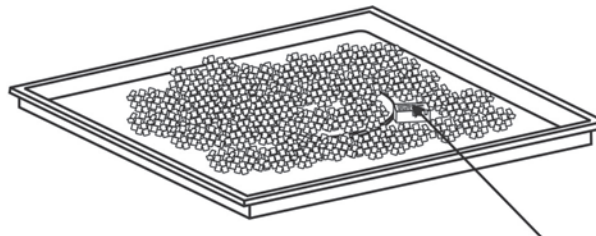

Figure 11
11. Remove the cardboard cover from the ignition well as shown in Figure 11.